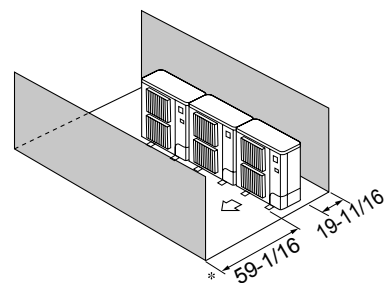

Fig. 2-15
- ④ Obstacles at front and rear only (Fig. 2-15)